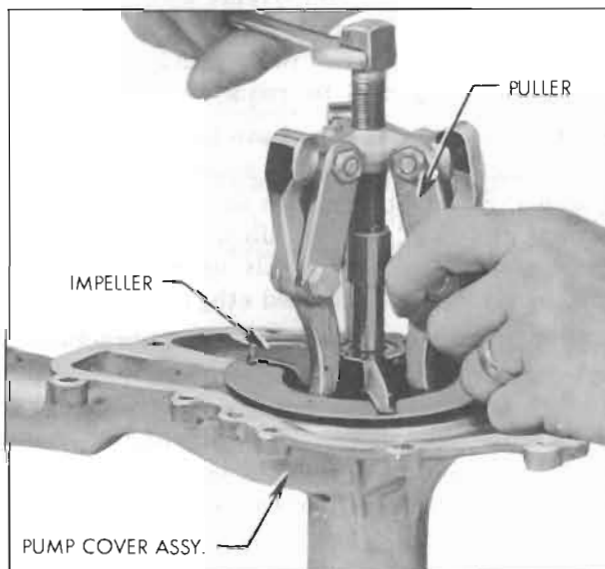

Figure 2-39—Pulling Water Pump Impeller
1. Pull impeller from pump shaft using care to avoid any end thrust on bearings. See figure 2-39.